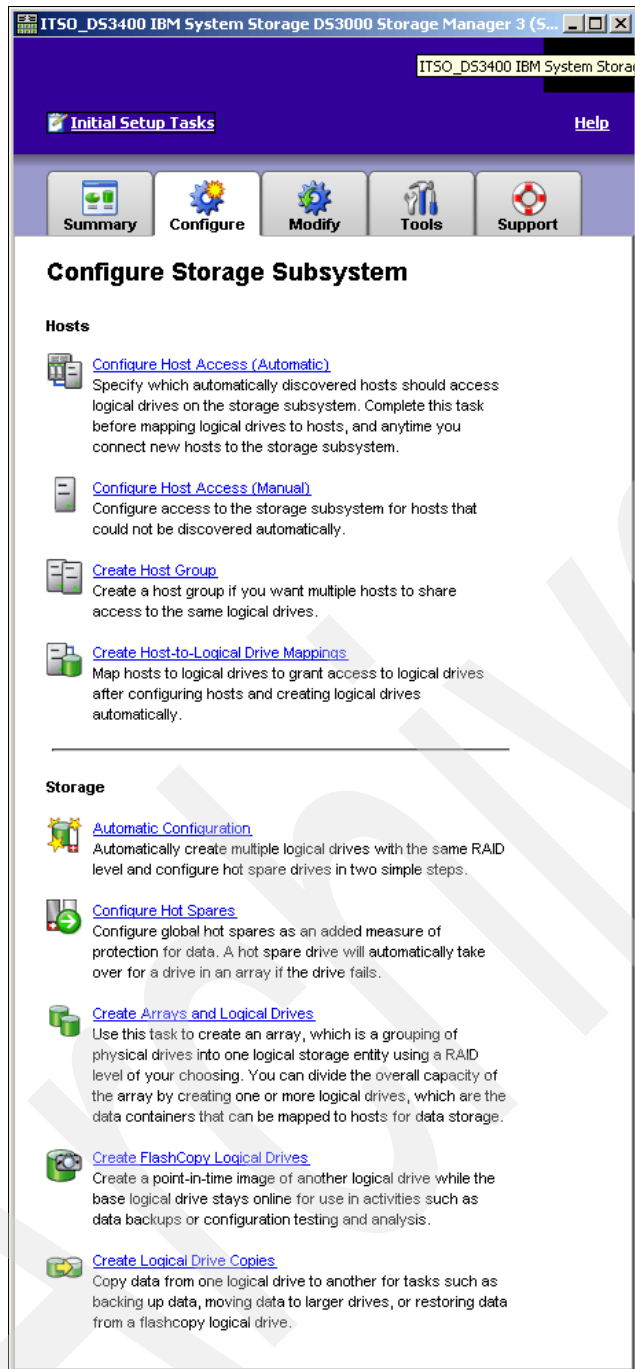
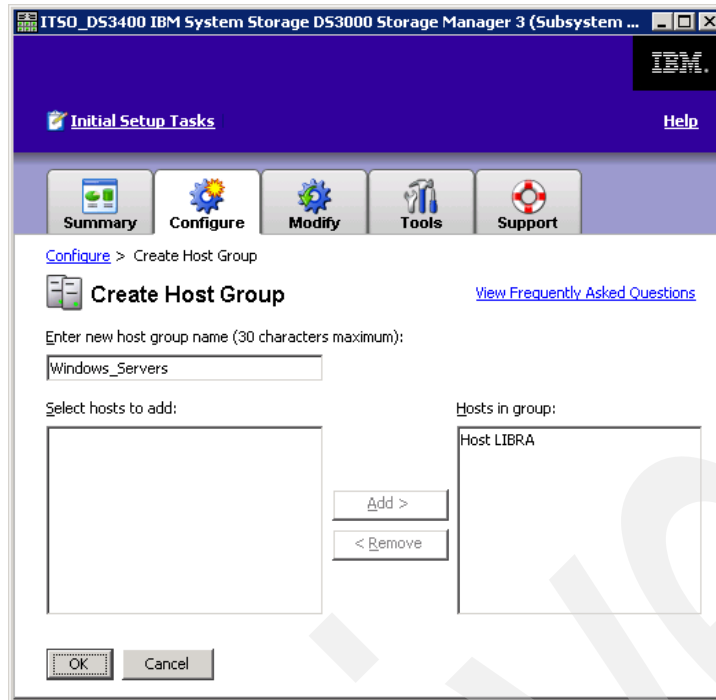

Figure 9-14 The Configure tab
Figure 9-25 Create Host Group - enter name and add hosts
In the first part of the *configure* tab (Figure 9-14 on page 141), you can:
1. In the window shown in Figure 9-14 on page 141, click **Create Host Group** to display the Create Host Group window. Enter a unique name for your new host group, select the hosts that you want to add to the group, and click **Add** (Figure 9-25 on page 151).
This is the third part of the Configure tab (Figure 9-14 on page 141). We take a closer look at the host to logical drive mappings. First., we need to discuss storage partitioning.
1. From the Configure tab (Figure 9-14 on page 141), select **Create Host-to-Logical Drive Mappings**.